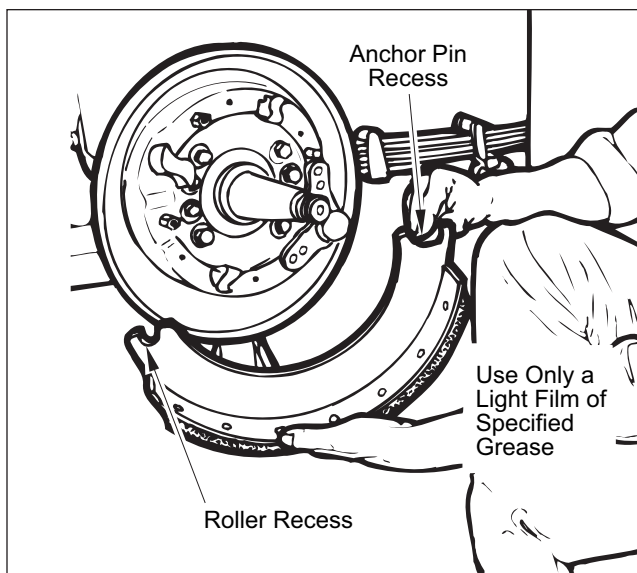

Figure 57. Shoe Web Lubrication
2. Apply a thin film of grease to cam roller and anchor pin recesses of each shoe web. Refer to Figure 57.